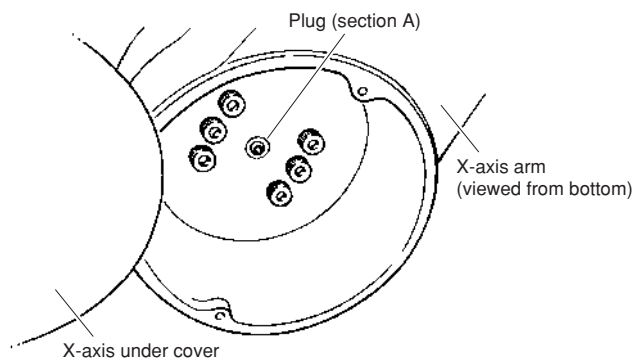

Fig. 5-32
- 8) Remove the plug on the underside (section A) of the X-axis arm and attach the grease nipple (A-MT8×1) there. (See Fig. 5-32.)